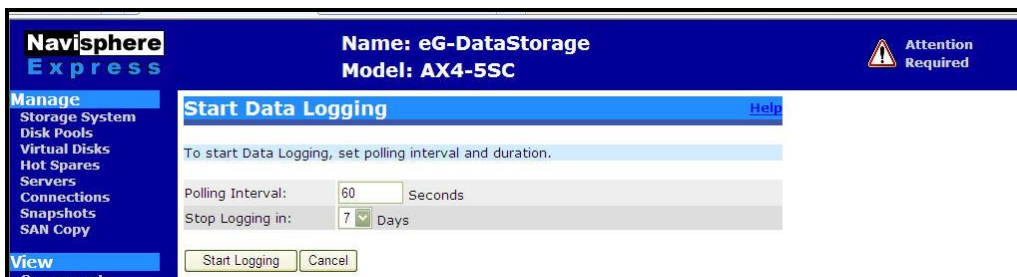

Figure 1.9: Configuring data logging
- You can configure how frequently data logging should occur and also indicate when it should stop using the **Polling interval** and **Stop Logging in** controls (respectively) in Figure 1.9 that appears. Then, click the **Start Logging** button in Figure 1.9 to begin data logging.